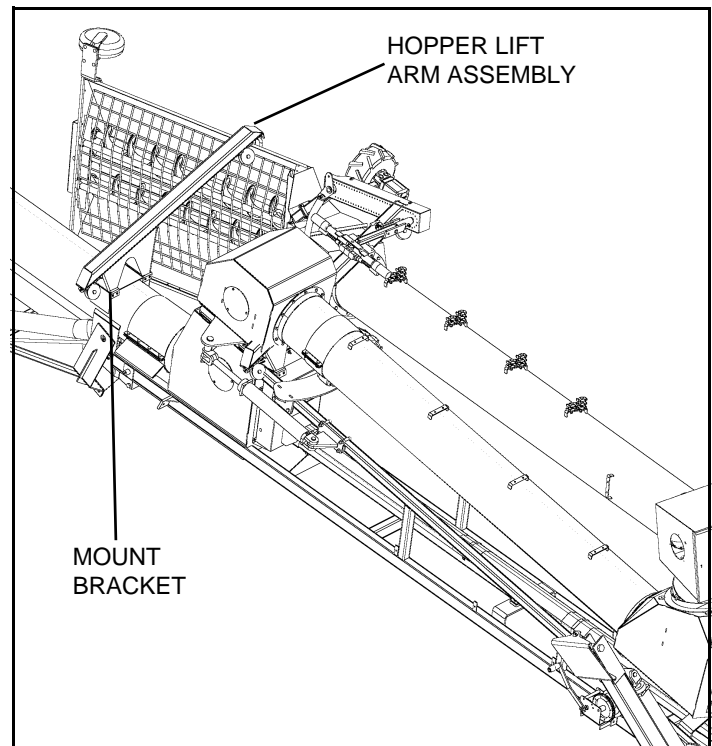

Figure 5.3
11. Attach cable hook to the loops inside the hopper (Figure 5.3).
12. Fully raise hopper with intake side facing towards the main auger as shown in Figure 5.3.